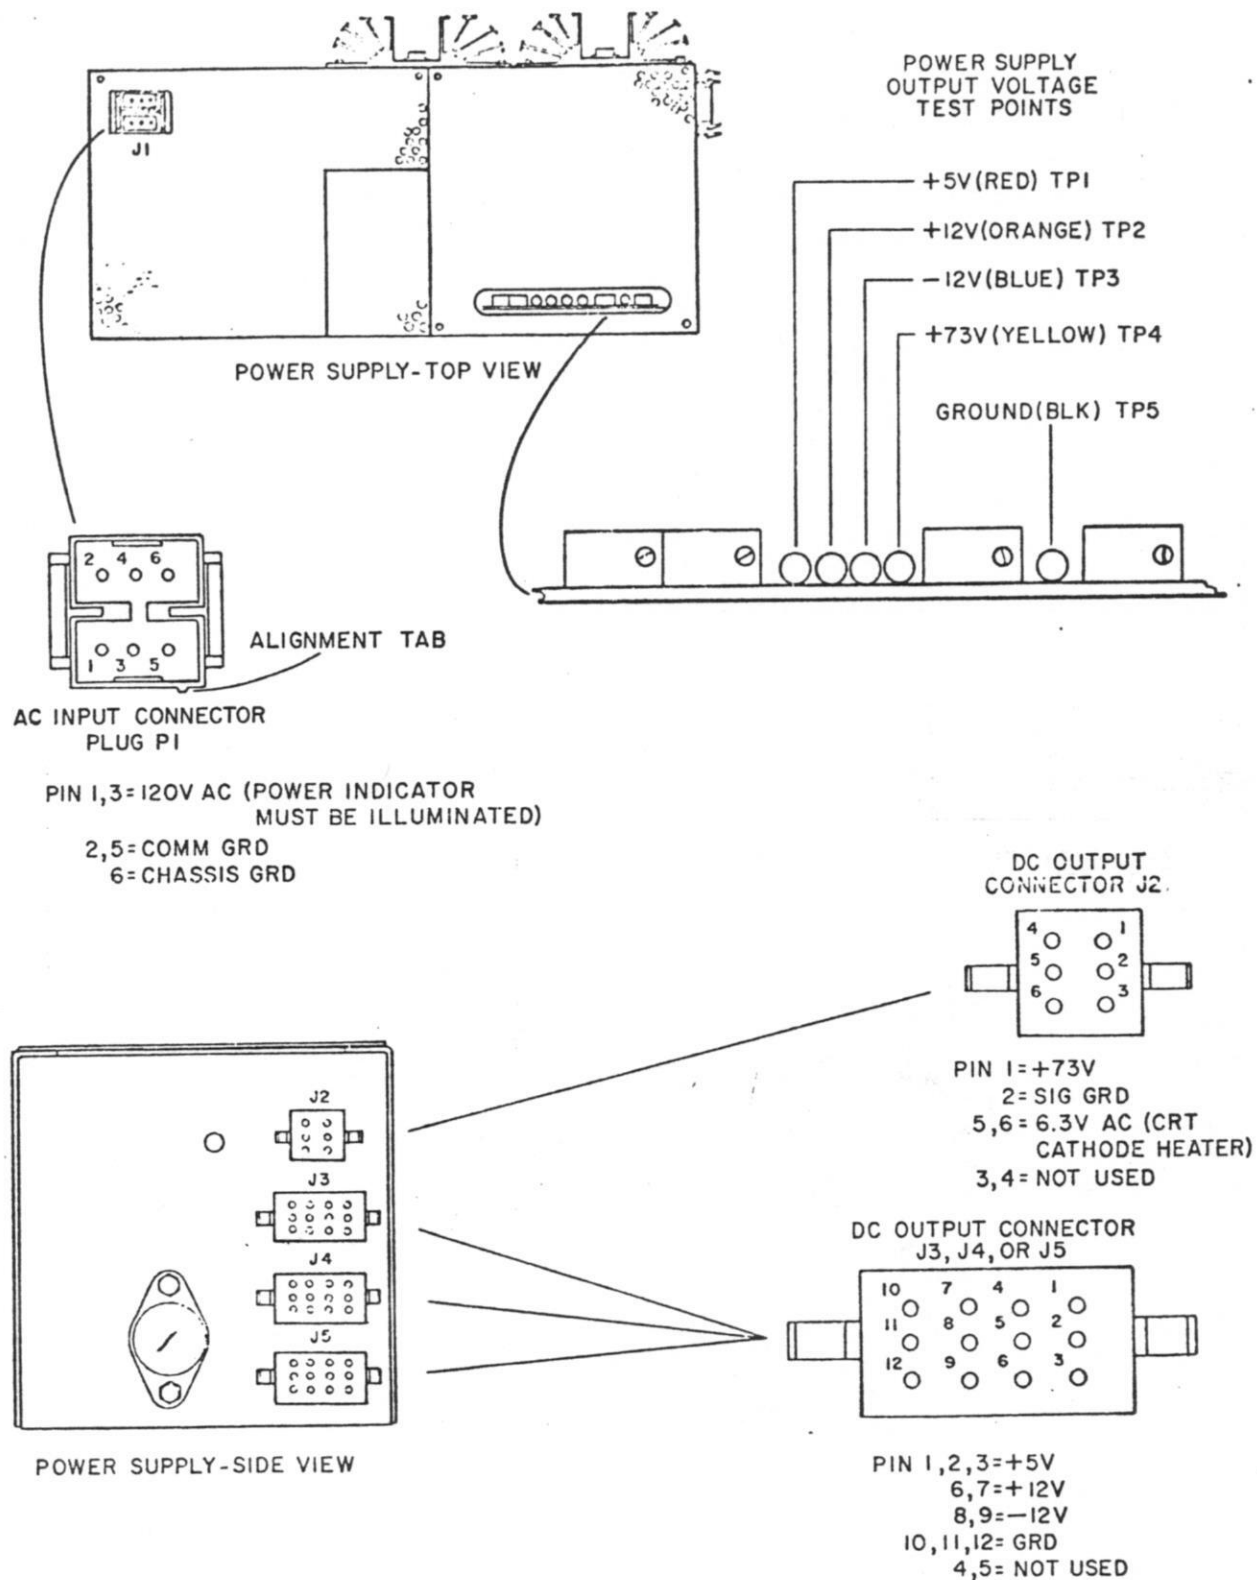

Figure 5-4. Power Supply Voltages
If master clearing the terminal does not eliminate the problem, the next procedure for returning the unit to service should be a power supply module voltage check. Figure 5-3 shows how to check the fuse. Figure 5-4 locates external voltage test points for the power supply.
- If voltage check at connectors is desired, place identifying tags on cables to power supply connectors J2, J3, J4 and J5 to insure proper reconnections and refer to Figure 5-4 and disconnect output connectors J2, J3, J4 and J5.